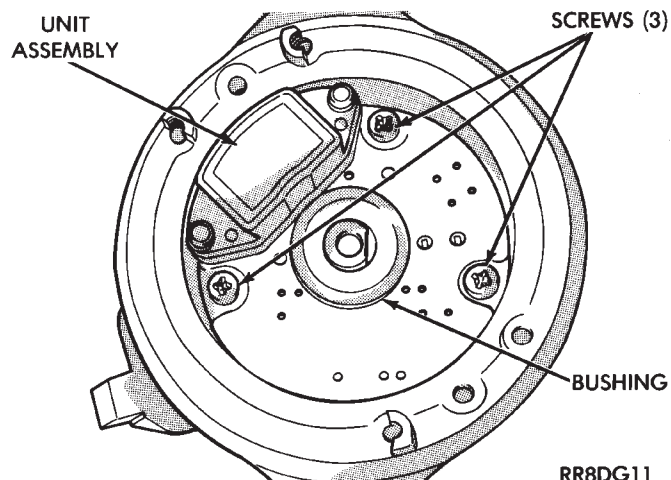

Fig. 30 Photo Optic Sensing Unit Assembly and Bushing
(8) Remove bushing and photo optic sensing unit fasteners. Remove unit from distributor housing (Fig. 30).